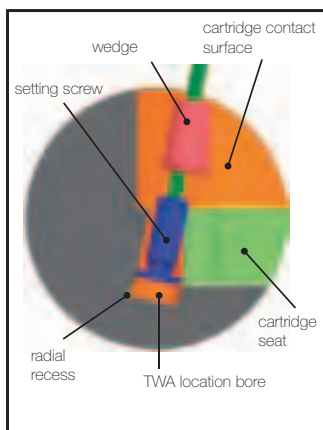

Fig. 5: ASSEMBLY
2. Enter the hexagonal key through the wedge into the hexagonal socket of the setting screw and insert together into the location bore of the adjustment unit to the bottom of the bore (fig. 5).